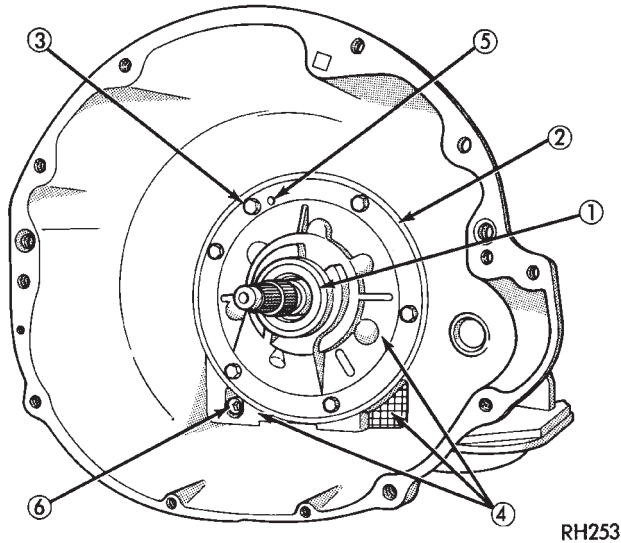

Fig. 17 Pump Area Inspection Points
(7) Check probe **upper surface**. If upper surface is dry, converter and seal are OK. If probe upper surface is wet, converter and/or seal is leaking.
(8) Fluid leaking **under** the probe is coming from pump housing area. Leak could be from: pump seal and/or bushing, pump vent, kickdown lever shaft access plug, pump bolts, or porous spots in pump body or transmission case (Fig. 17).
(9) If porous spots in the transmission case or pump body are the suspected leak source, pressurize transmission as described in Leak Testing With Air Pressure.
(1) Leaks at the weld joint around the outside diameter weld (Fig. 17).